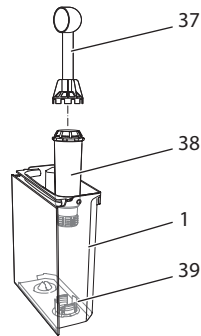

Fig. 18: *Screwing/unscrewing the water filter*
- Remove the water filter (see Fig. 18).